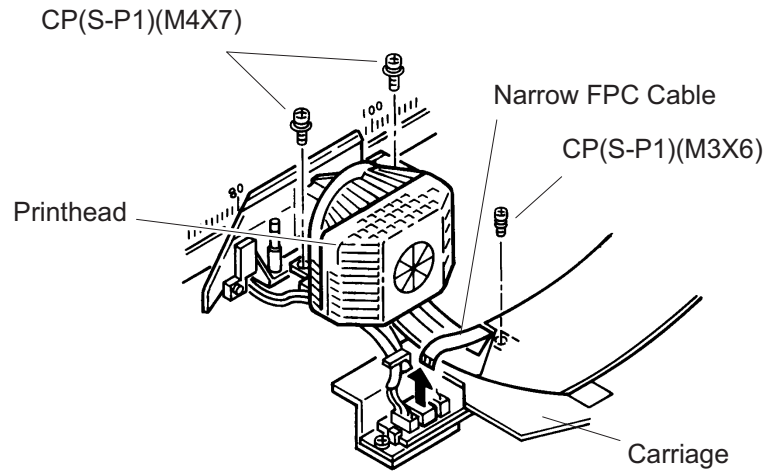

Figure 3-12. Printhead Removal
- Confirm that the cables are connected correctly. (Refer to Figures 3-12 and 5-3..)